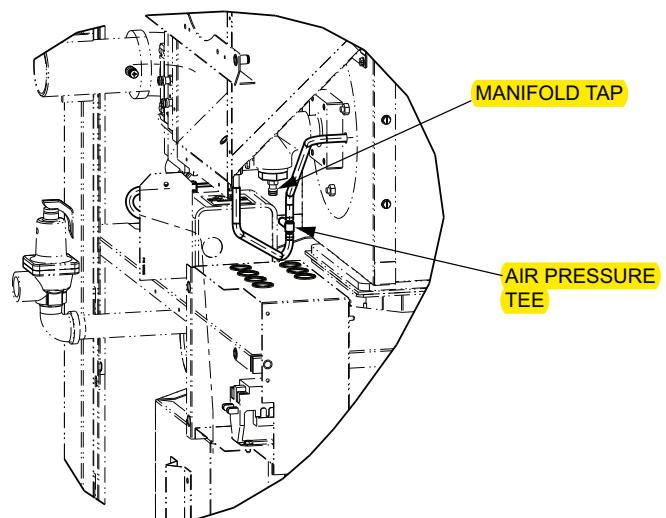

Fig. 47: Air Pressure Tee
4. Attach (1) 12" scale manometer on the fan suction pressure hose. Pull black cap from air pressure tee as shown in Fig. 47 and connect the manometer. NOTE: Retain caps for reinstallation later.